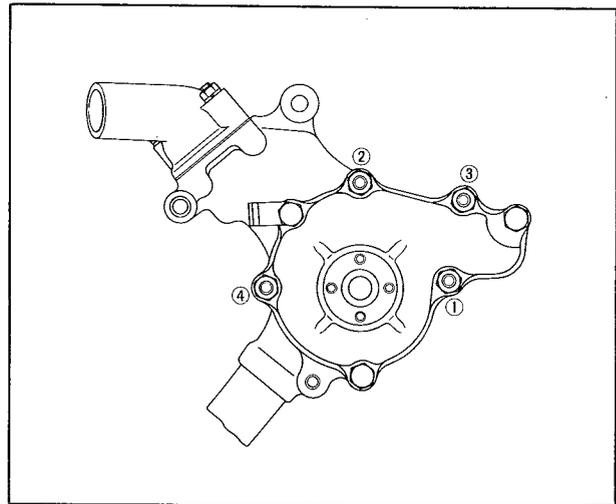

Fig. 3-13 Tightening order of water pump attaching nuts
1. Tighten the water pump attaching nuts evenly to 1.8 ~ 2.7 m-kg (13 ~ 20 ft-lb) sequence shown in Fig. 3-13.